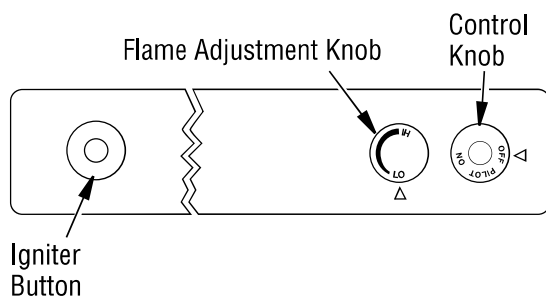

Figure 39 - Control Knob and Igniter Button Location (Shown as Supplied, No Control Options)
4. Press in and turn control knob clockwise  to the OFF position (see **Figure 39**).
5. Wait five (5) minutes to clear out any gas. Then smell for gas, including near the floor. If you smell gas, STOP! Follow "B" in the safety information, **Page 24**. If you don't smell gas, go to the next step.
6. Press in and turn control knob counterclockwise  to the PILOT position. Press in control knob for five (5) seconds (see **Figure 39**).